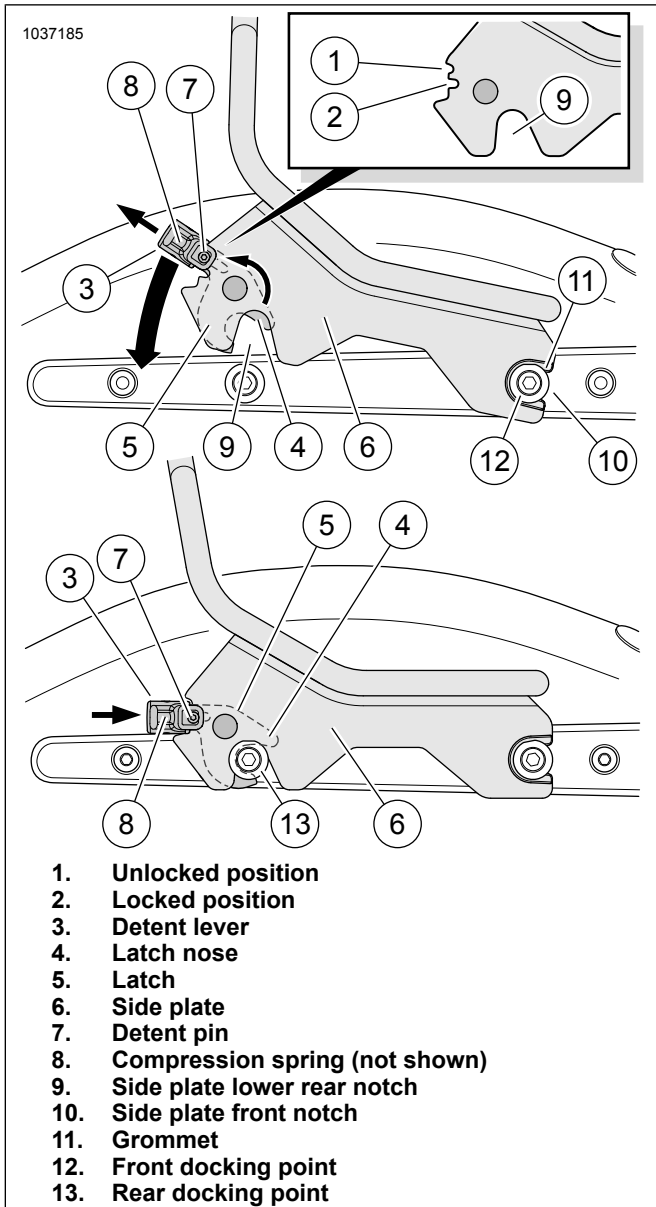
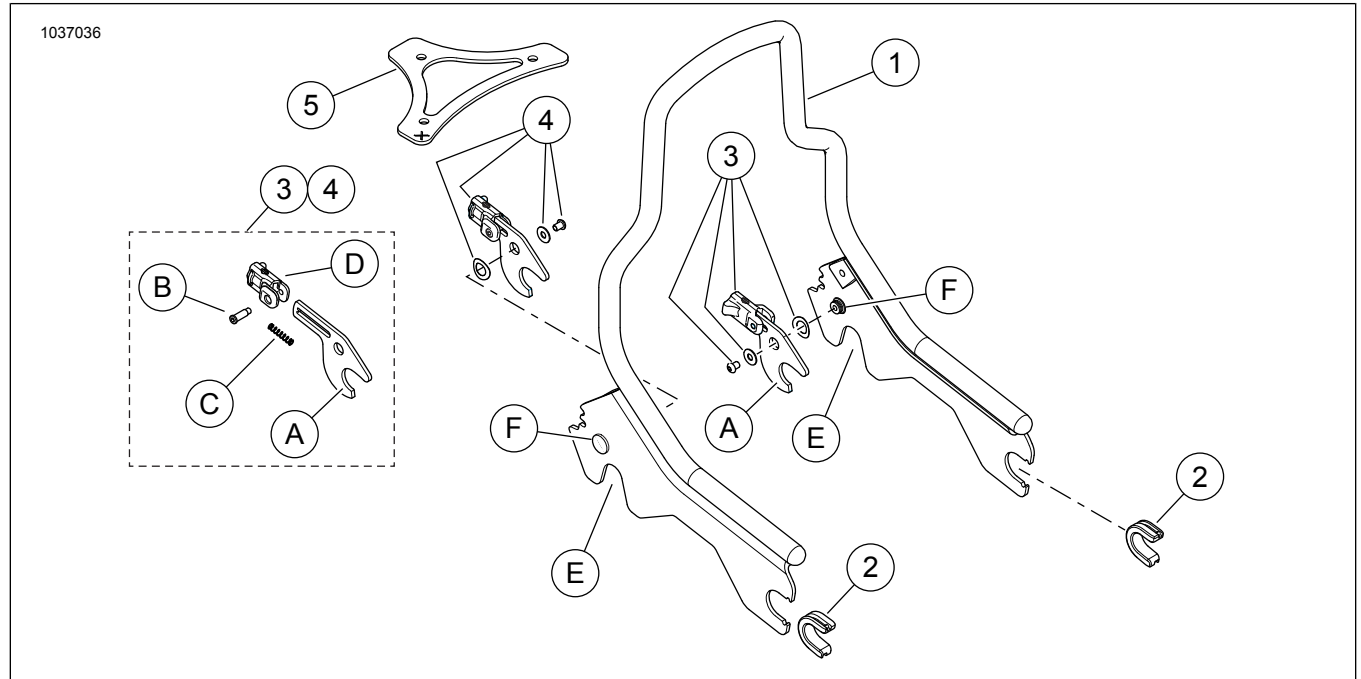

Figure 1. Detachable Backrest Installation
Figure 3. Service Parts, Detachable Backrest Kits
Refer to Figure 3 and Table 1.
- See Figure 3. Position the right (4) and left (3) latch levers in the unlocked position as shown in Figure 1, upper view (Item 1).
- Pull both detent levers (3) rearward against the compression spring (8, not visible).
- Rotate the levers upward so each latch nose (4) is positioned inside the lower rear notch (9) of the side plate (6).
- Each detent pin (7) is now located in the uppermost (unlocked position) notch.
- The compression spring (8) inside the detent lever holds the latch (5) in the unlocked position.
- Push the sideplate front notches (10), with grommets (11) in place, firmly and evenly into the **front** docking points (12).
- See Figure 1, lower view. Swing the rear of the backrest side plates (6) downward toward the **rear** docking points (13).
- As the side plates (6) move down, the latches make contact with the plastic surface of the rear docking points.
- As the docking points contact the latches, each latch nose (4) is forced upward.
- This causes the pin (7) to move down into the lowermost (2-locked) position on the side plate.
- The springs (8) lock each latch firmly in place around the rear docking points.
- Make sure that detent pins (7) are fully seated against the side plates (6).
- If not fully seated, push detent lever (3) forward.
- a. As the levers rotate upward, the latch noses (4) are forced against the rear docking points (Figure 1, Item 13).
- b. This raises the rear of the backrest side plates (6) out of the docking points.
3. Release the detent levers. The springs (8) will move each lever back into the unlocked position (1).